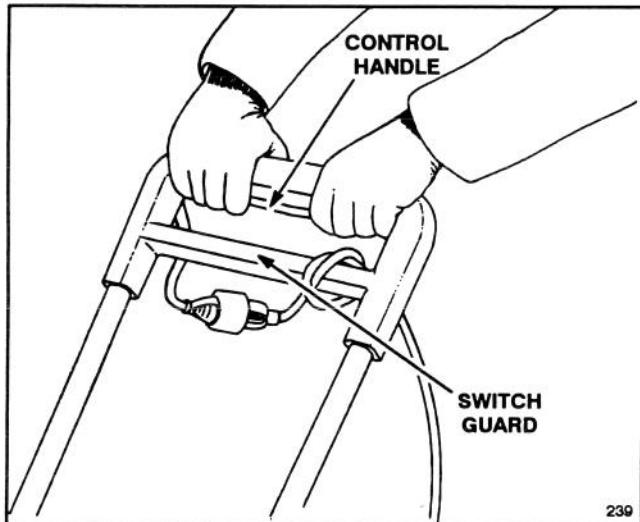

Figure 3
cord to switch guard before connecting to snowthrower cord; refer to page 4, figure 3 for proper procedures.
1. Tie the extension cord to the switch guard before connecting to the snowblower cord. This prevents separation of the cords during operation (Fig. 3).
To start rotor, make sure key is installed, and squeeze the control handle. To stop, release the control handle (Fig. 3).
1. Squeeze the control handle to start the rotor (Fig. 3). The depth and weight of the snow governs the forward speed.